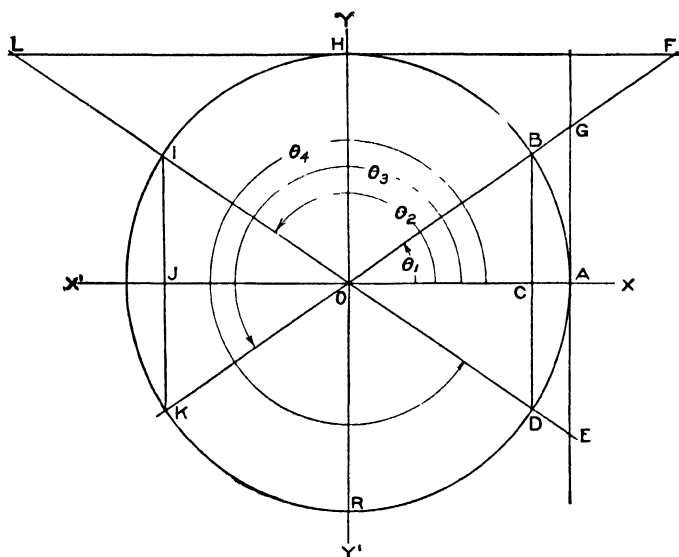

Fig. 8.
12. We know from plane geometry that we can draw but two equal chords perpendicular to a diameter, and these chords will be bisected by the diameter. In Fig. 8 let us choose the X axis as the diameter to which we will draw I K and B D two equal and perpendicular chords.
Then $\sin \theta_1 = \sin \theta_2, \sin \theta_3 = \sin \theta_4$. Now from Fig. 8 $\angle B O H = \angle H O I$, and $\angle K O R = \angle R O D$